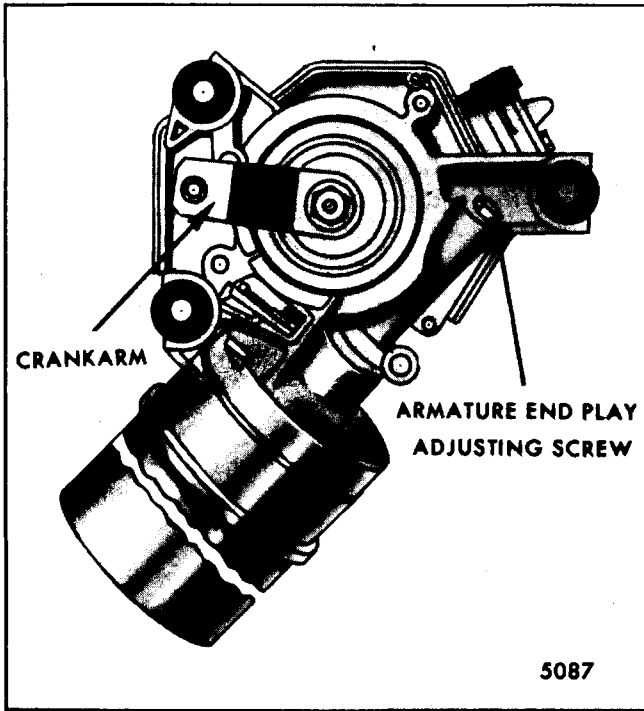

Fig. 2-45-Wiper Motor and Crank Arm in Park Position
8. Operate wiper to "park" position and install crankarm in the approximate position shown in Fig. 2-45.
1. Loosen adjusting screw locknut (Fig. 2-45) and tighten or loosen the adjusting screw as required until end of screw barely touches end of armature.